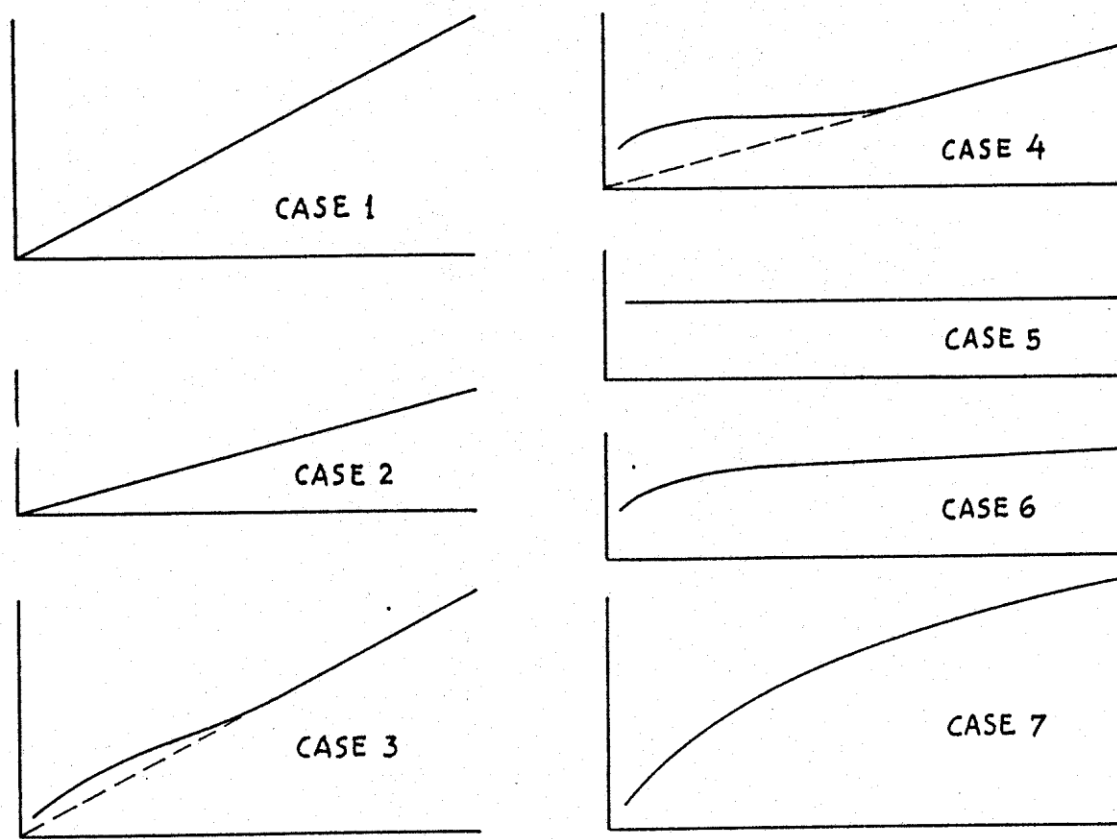

FIG. 2
9. In Fig. 2 are shown the strength envelopes obtained by means of triaxial compression tests on various clay materials.